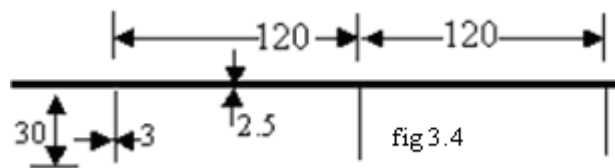

Figure 4:
- (b) Determine the buckling strength of a panel, comprising flat sheet and uniformly spaced stringers, a part of whose cross section is shown in figure 4, under uniform compressive loads. Take $E=70\text{GPa}$ and compressive stress = 300 MPa . All dimensions are in mm. [6+10]